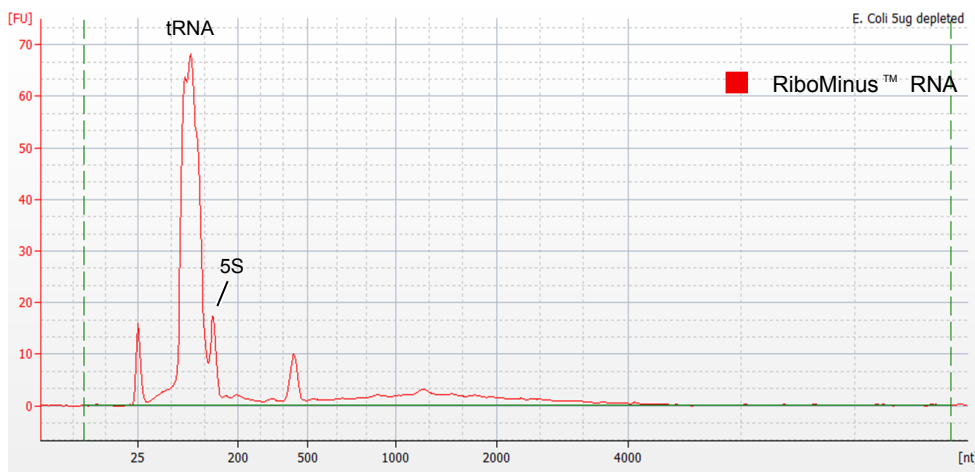

Figure 2 Agilent™ RNA 6000 Pico Assay detailed trace of RiboMinus™ RNA shows absence of rRNA peaks.
- To verify the rRNA depletion, use a Bioanalyzer™ assay or perform agarose gel electrophoresis on the sample. The efficiency for RNA depletion in RiboMinus™ RNA, RNA degradation, and RNA concentration can be effectively analyzed using the Agilent™ 2100 Bioanalyzer™ with the Agilent™ RNA 6000 Pico Kit or the RNA 6000 Nano Kit (see Figure 1, Figure 2).